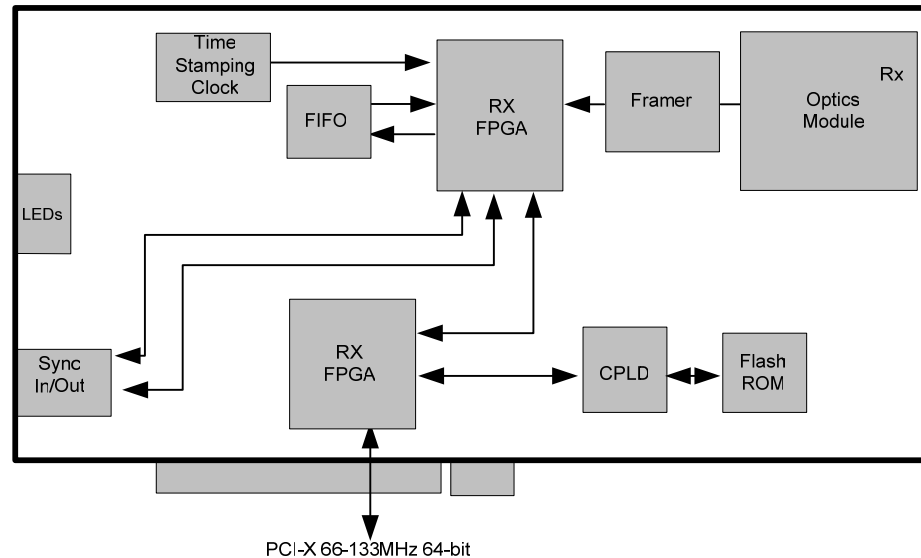

Figure 1-2. DAG 6.2S Card Major Components and Data Flow.
**Figure** Figure 1-2 shows the DAG 6.2S card major components and data flow.